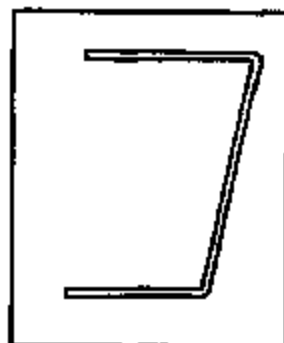
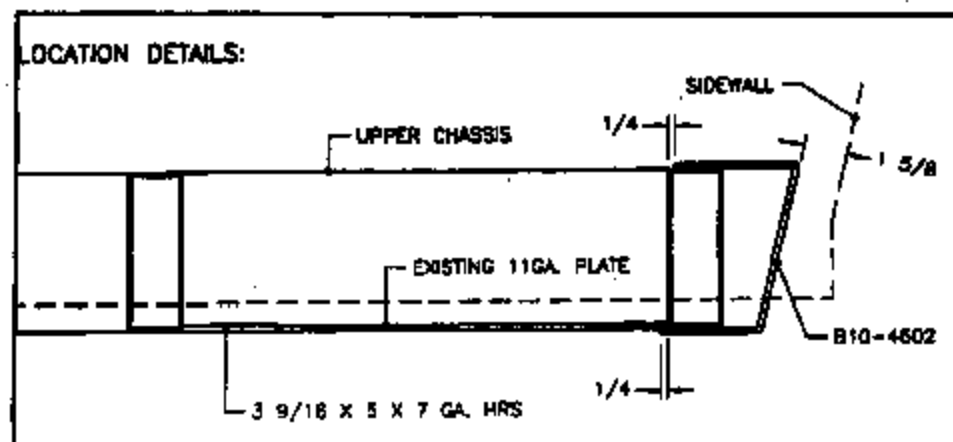

Figure 3
Figure 4
2. Place 7-ga. formed channel (Figure 3) over front crossmember. Grind any welds or other protrusions as required for good fit. Position as shown in Figure 4. Center on front crossmember and align ends with lower corners of sidewalls. Remember to leave $1\frac{1}{8}$ " for the front wall. Reroute wiring as required to protect from heat. Drill holes and/or extend if necessary to complete circuits after assembly. Weld formed channel as shown in Figure 5.